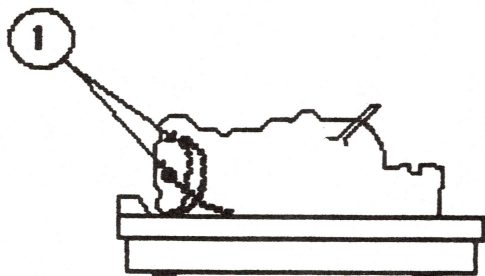

FIGURE 9
3. Replace the two screws and ground wires (see Figure 9, #1) at the left end of the chassis.